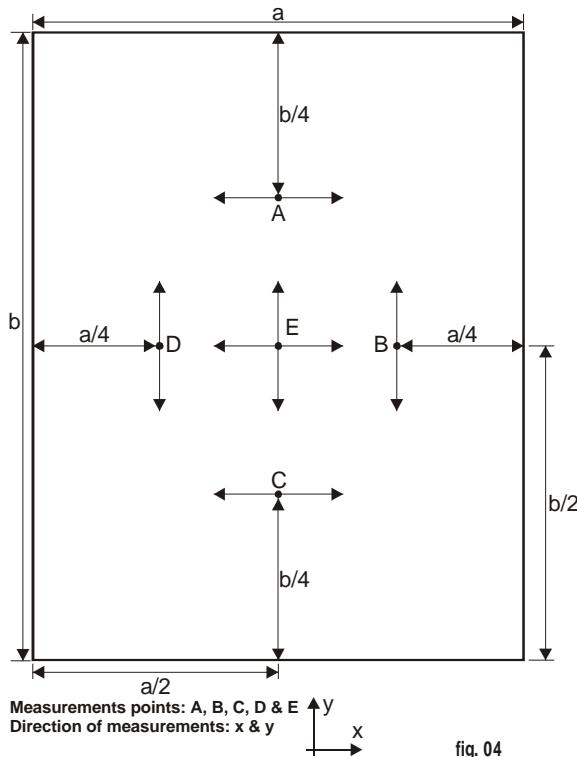

fig. 04
6. In order to properly evaluate soil resistivity, measurements must cover the whole area to be occupied and influenced by the future grounding system. For an area of up to  $10,000 \text{ m}^2$ , it is recommended resistance measurements to be performed in at least five points, arranged as shown in figure 04. Two sets of measurements should be needed for the central point (each set of measurements with its corresponding spaces between rods of 1, 2, 4, 8 and 16 m).
Larger areas can be divided in areas of  $10,000 \text{ m}^2$  each, and measurements in 5 points can be carried out as shown in figure 04. Besides, in the case of different forms, there will always be the possibility of limiting a rectangle and proceed as in the previous case.